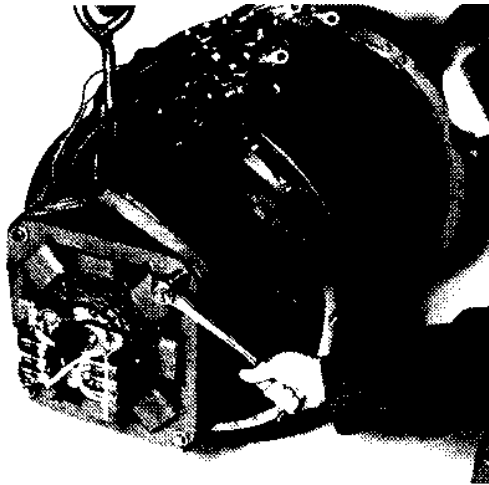
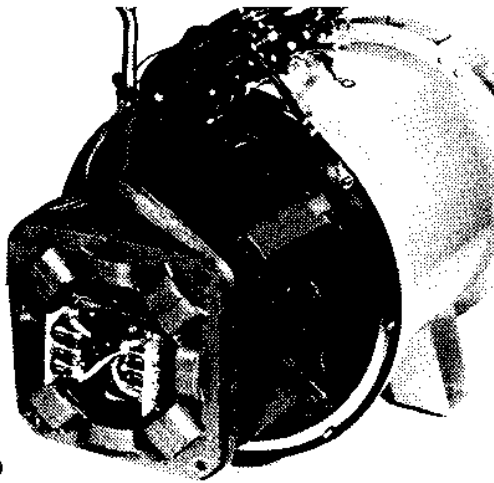

FIGURE 6-8
FIGURE 6-9
2. Remove all cableties so the F1 and F2 leads can be removed with the exciter stator. Remove the four capscrews and belleville washers holding the exciter stator in place. (Figure 6-8.) Remove the exciter stator. Using a lifting strap or fixture. (Figure 6-9.)